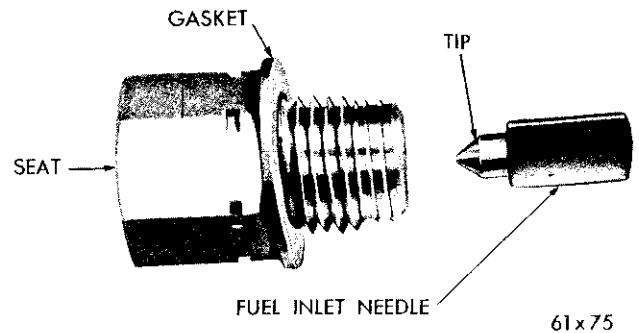

Fig. 39—Rubber Tipped Needle, Seat and Gasket
RUBBER-TIPPED FUEL INLET NEEDLE (Fig. 39)
- (1) To correctly set the float height when the carburetor is being overhauled, install the floats with the fulcrum pin and pin retainer in the main body.
- (2) Install the rubber-tipped needle, seat and gasket in the body and tighten securely. (See Figure 39.)